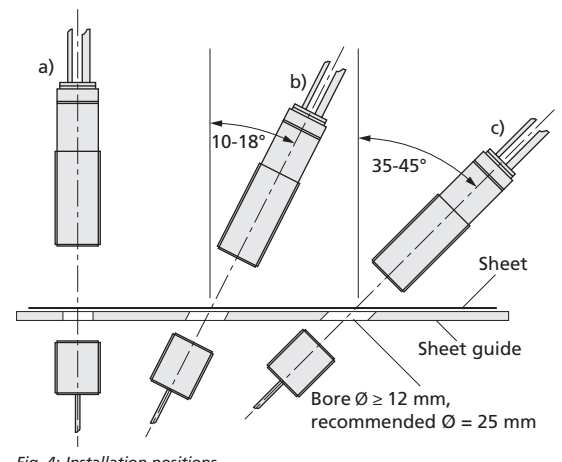

Fig. 4: Installation positions
- If you install the transmitter in a recessed position or position a sheet guide between the transmitter and receiver, the hole must have a minimum diameter of  $\geq 12$  mm, but we recommend a diameter of 25 mm (Fig. 4).